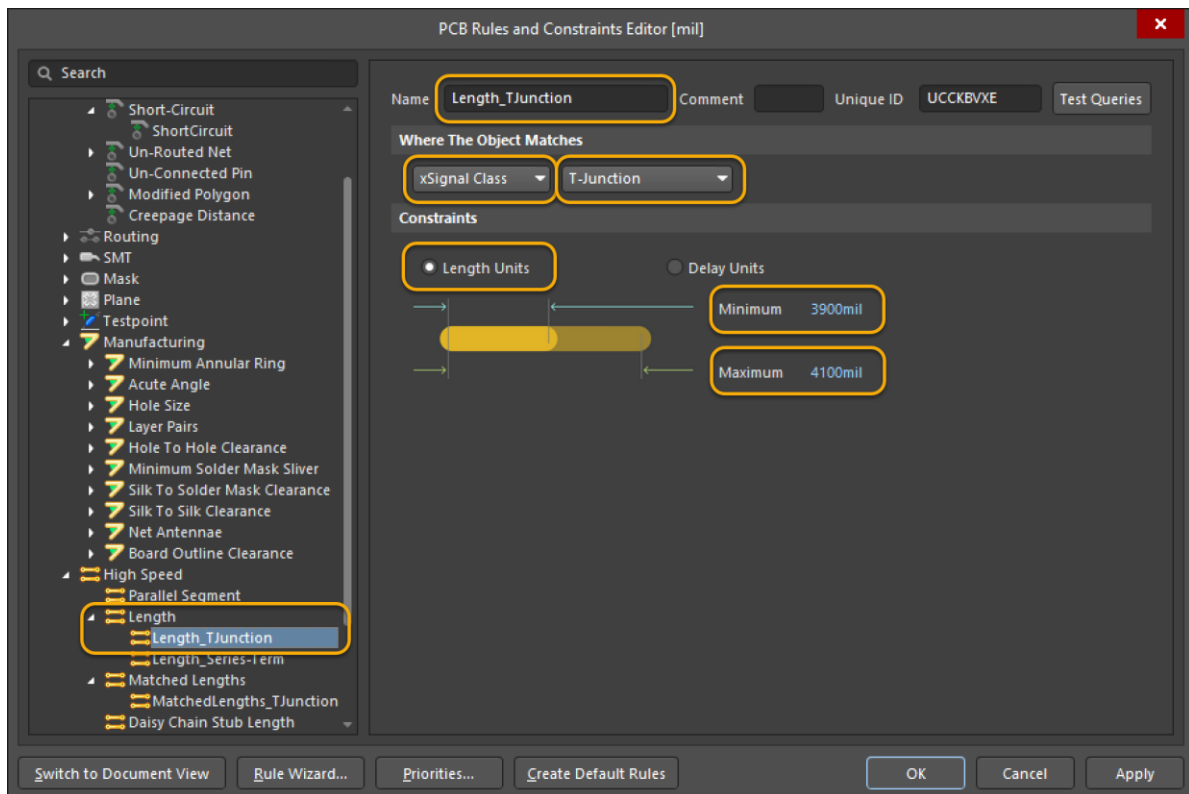

Figure 19. *Length_TJunction* rule
- d) Configure the rule with the following parameters using Figure 19 as a reference.